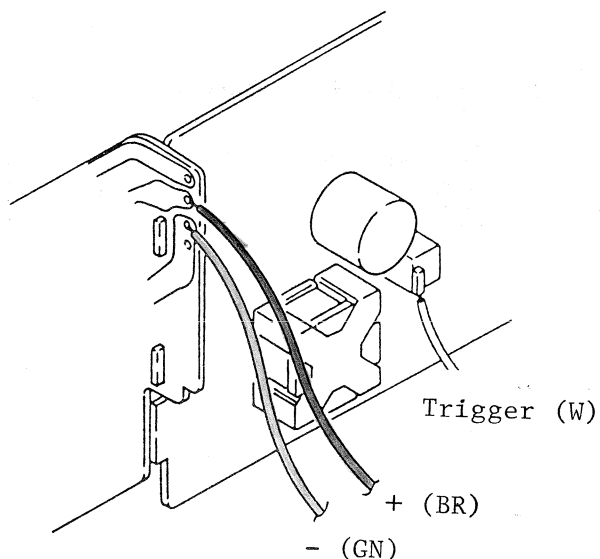

Fig. 9
3.2 Unsolder the opposite end of the three leads from the preflash unit (Fig. 9).